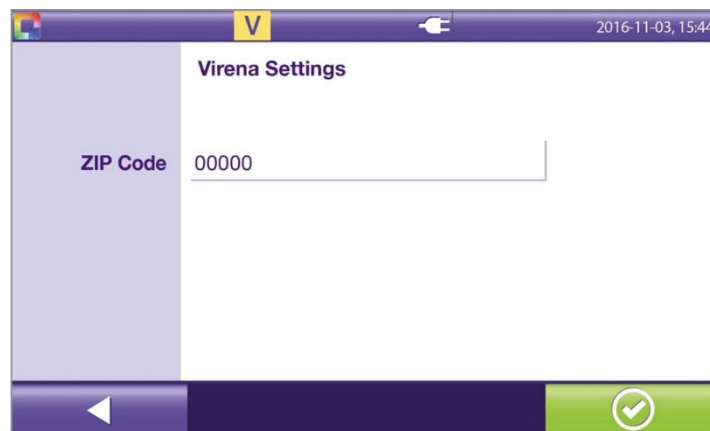

Figure 29
- Type in the **Zip Code** (Figure 29).